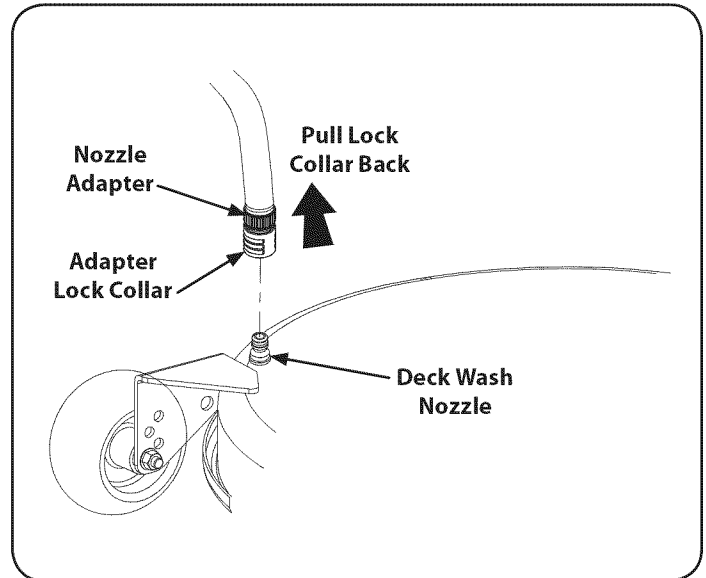

Figure 30
3. Pull back the lock collar of the nozzle adapter and push the adapter onto the deck wash nozzle at the left end of the mower deck. Release the lock collar to lock the adapter on the nozzle. Refer to Figure 30.